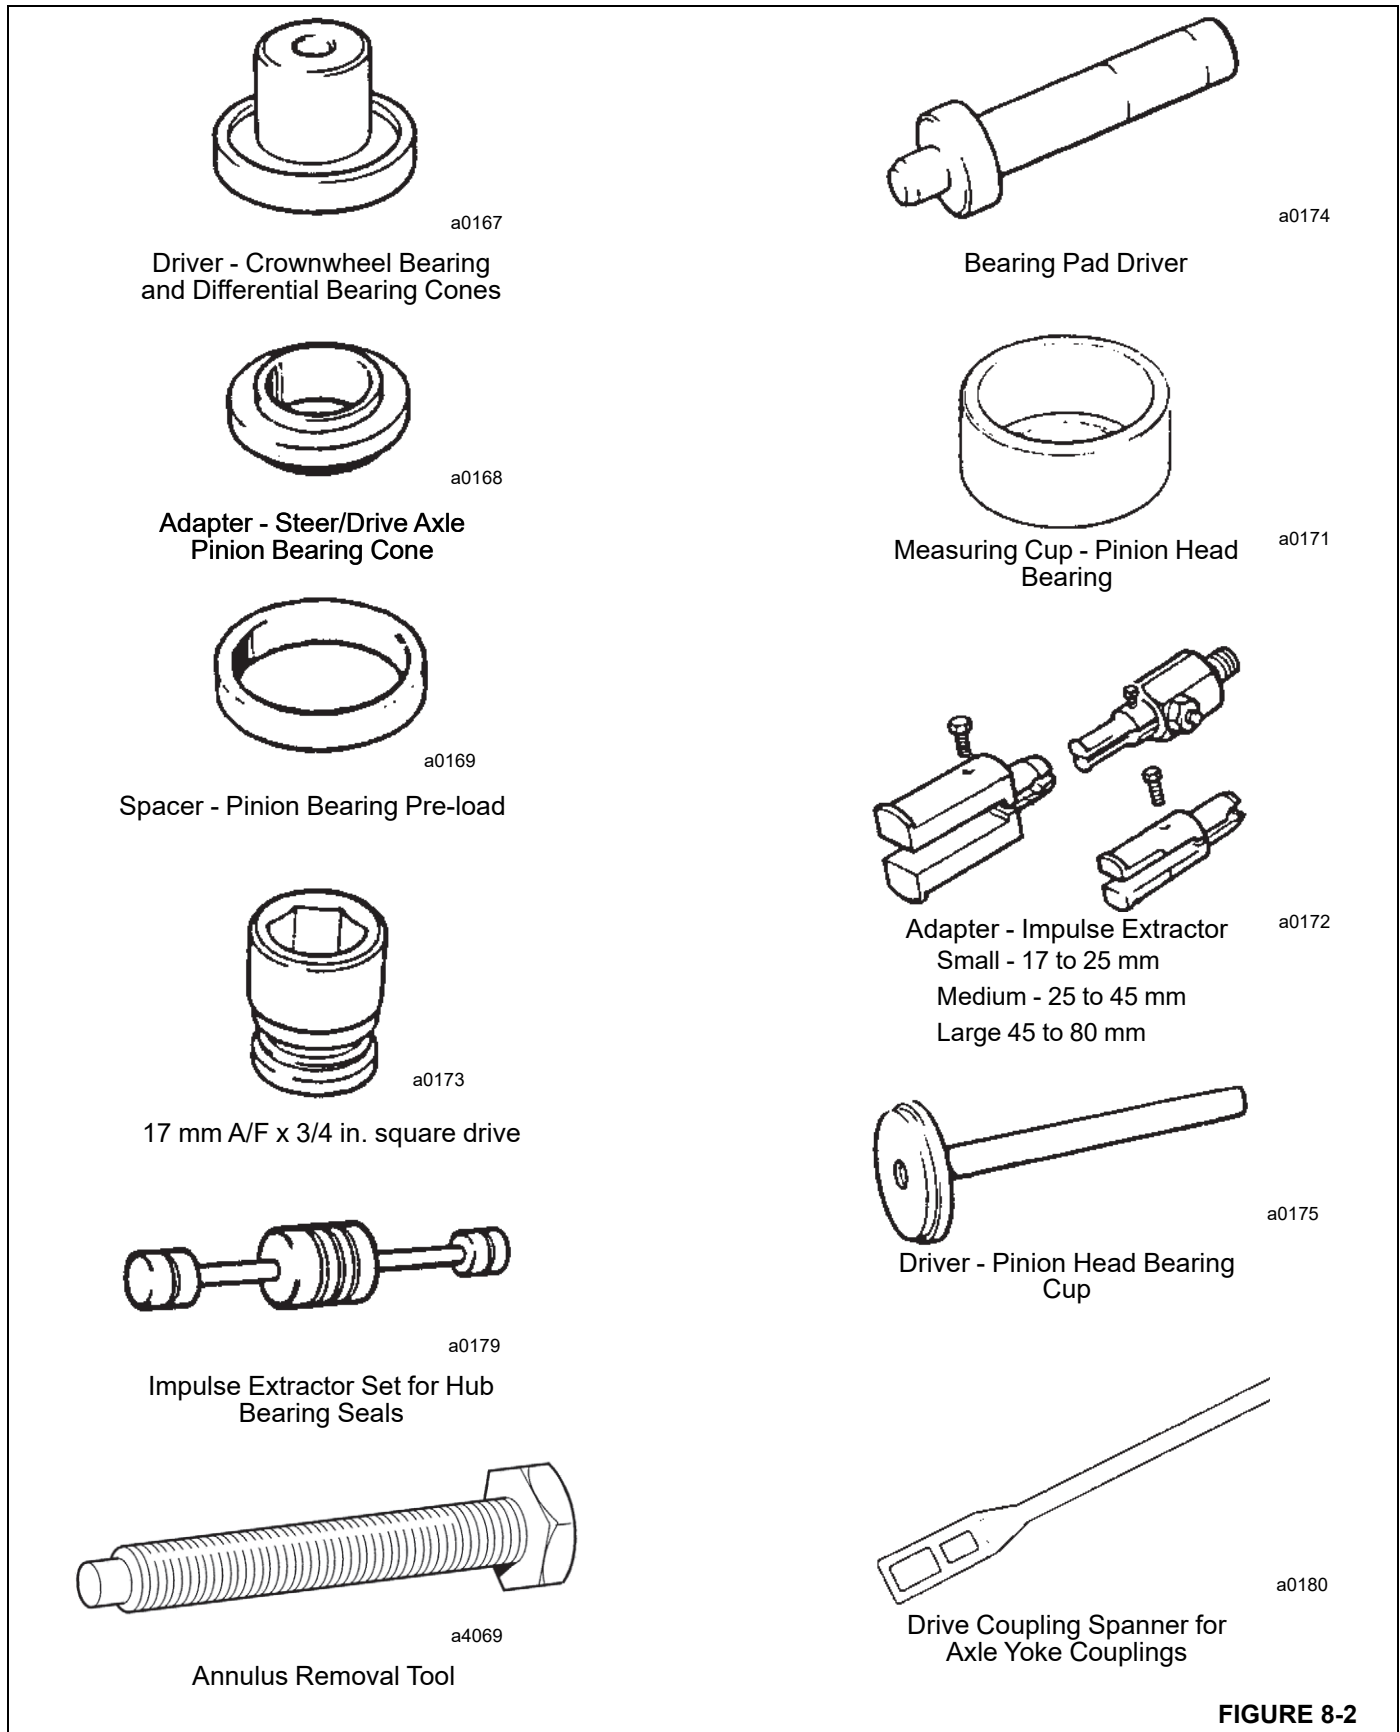

FIGURE 8-2
The tools illustrated in (Figure 8-2) are available from your Grove Cranes distributor.
2. Place Measuring Cup (Pinion Head Bearing, Figure 8-2) over the bearing assembly. Measure gap **A**
7. Install the drive coupling yoke (Figure 8-22) and secure it with a new combined stake nut and washer. Hold the yoke with Drive Coupling Spanner for Axle Yoke Coupling (Figure 8-2). Tighten the stake nut until end float is almost zero then check seal drag torque is between 0.40 to 1.0 Nm (3.5 to 8.9 lb-in). Continue to tighten the stake nut to achieve the correct rolling torque; see Step 8. If the nut is overtightened, the collapsible spacer must be renewed.